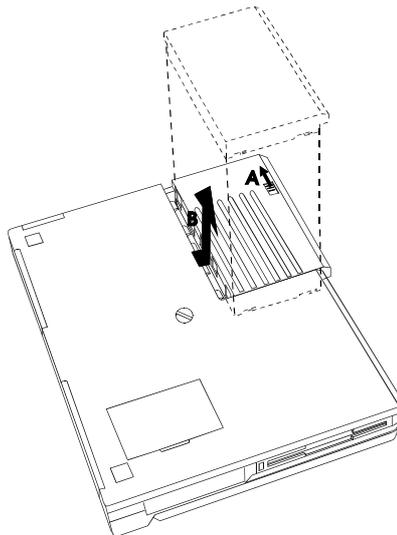

Figure 2-3. Battery Pack Disassembly/Reassembly
2. Release the battery pack release catch by sliding it outward (Figure 2-3 Arrow A). While holding the catch in the released position, pull the battery pack forward and lift it up (Figure 2-3 Arrow B).